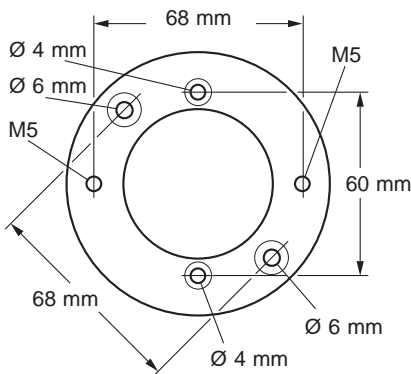

Figure 5
1. Select which set of fixing holes you intend to use (Refer to **Figure 5**).